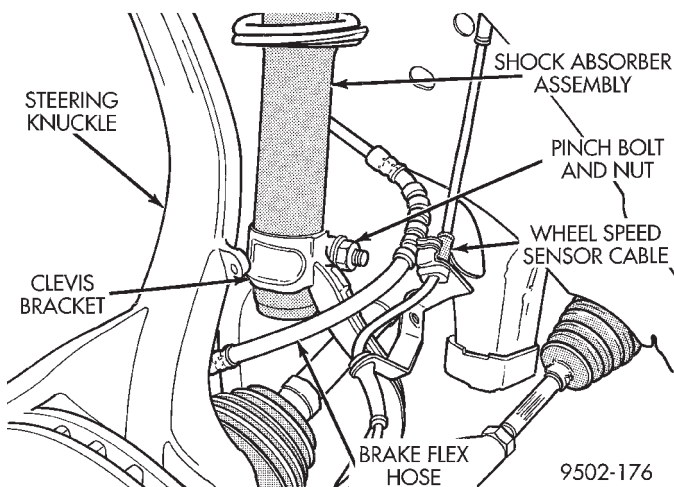

Fig. 7 Shock Absorber Clevis Bracket Pinch Bolt
- (8) Remove pinch bolt attaching shock absorber clevis to shock absorber (Fig. 7).